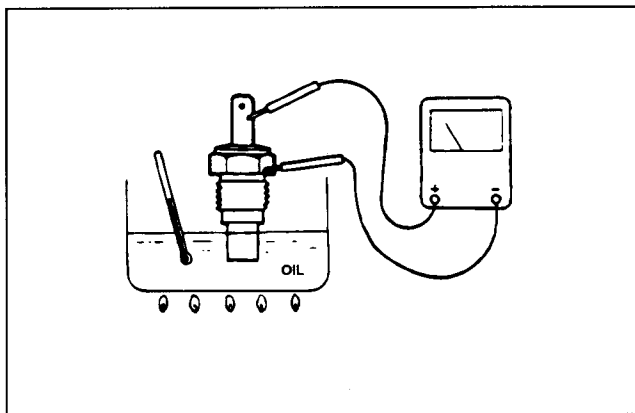

Figure 21
2. Put the switch in a container of oil with a thermometer and heat the oil (Fig. 21).